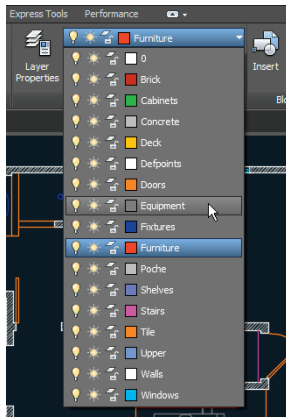

FIGURE 2.19 Making the Equipment layer current
2. On the Home tab, take a look at the Layer drop-down menu in the Layers panel, and observe that Furniture is the current layer (because you see its name without having to open the drop-down). Open the Layer drop-down menu, and select Equipment as the current layer (see Figure 2.19).